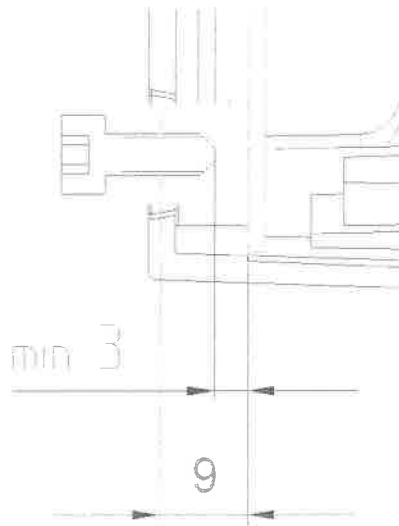

Figure 3: screw length for mounting shielding, PE's, ... to the earth terminal connection.
3. Make sure that the screw to connect to the grounding connection terminals is an M4 screw, with a length suitable for connection and conform Figure 3.